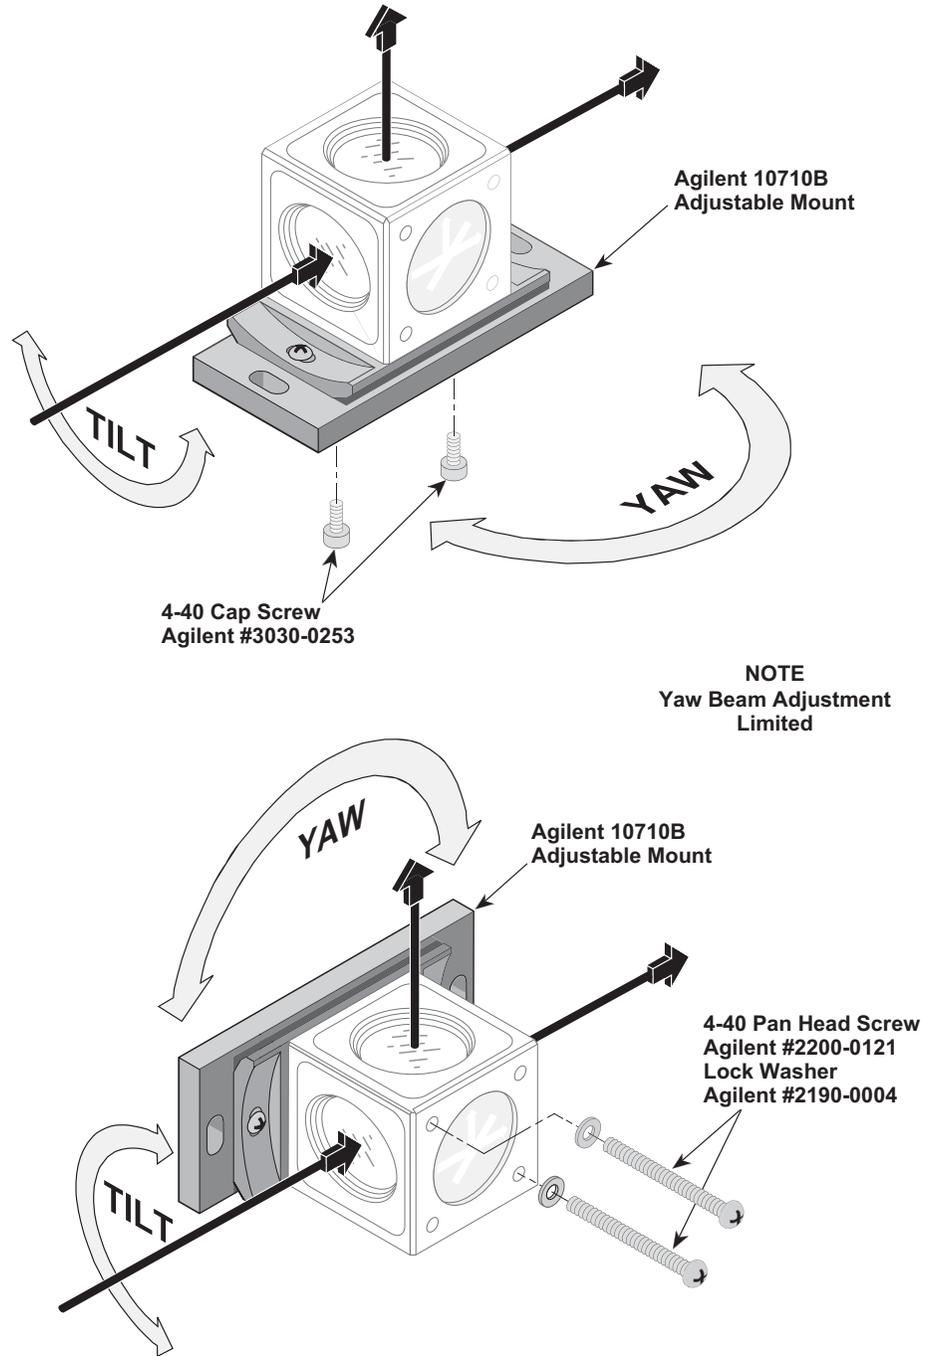

Figure 23 Vertical plane mounting using the Agilent 10710B adjustable mount
- 2 Figure 23 shows how to mount the beam splitting and beam bending optics or the single-beam interferometer in the vertical plane, using the Agilent 10710B Adjustable Mount.